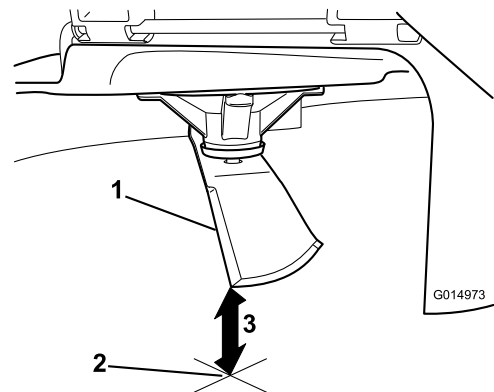

Figure 88
5. Measure from the tip of the blade to the flat surface (Figure 88).